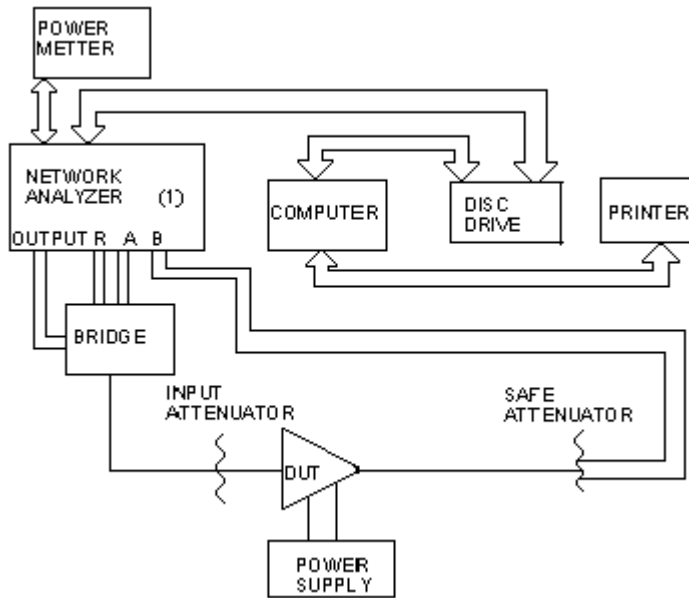

Fig. 6 Automatic compression measurement set-up of an amplifier.
Figure 6 shows the complete set up for compression measurement of an amplifier using HP8753A automatic vector network analyzer. Step by step measurement of compression is as follows:
4. Connect DUT as shown in figure 6. Set up instrument for CW frequency and power sweep. Apply power sweep. Read R & B channel powers. Apply correction factors to determine input and output powers as described above. Compute gain. Find the output power at which gain drops by a dB from the lowest power. If 1 dB point is not found increase drive level Repeat measurement. If drive levels at low and at 1 dB compression point are less than 10 dB decrease lower end of drive level, repeat measurement.